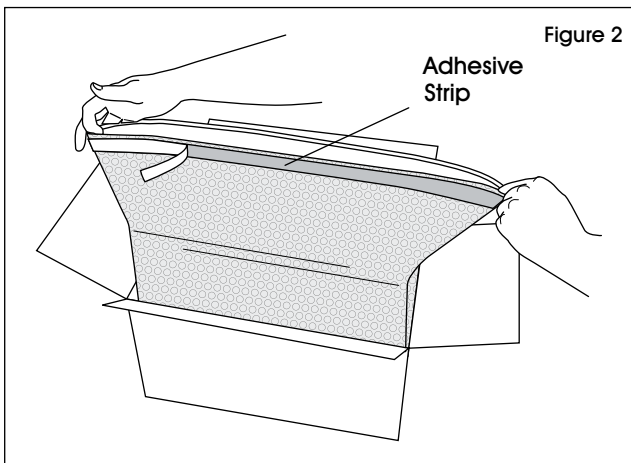

Figure 2
3. Peel the backing paper off of adhesive strip. Pull liner on opposite ends along adhesive strip. (See Figure 2)